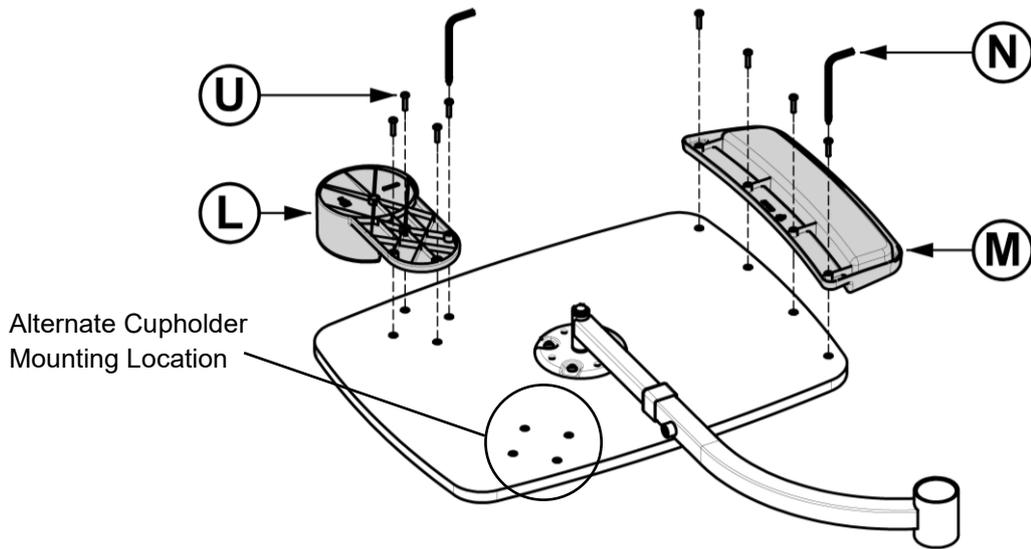

FIGURE 11
11. Secure Cupholder **H** and Utensil Organizer **M** to Tray **G** using Screws **U** (4x each) and Tool **N**, as shown in *FIGURE 11*.